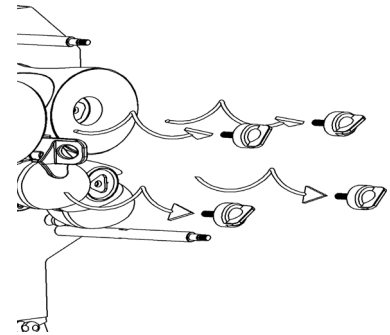

Figure 12
7- Remove the male screws (23) by unscrewing them (**Figure 12**).